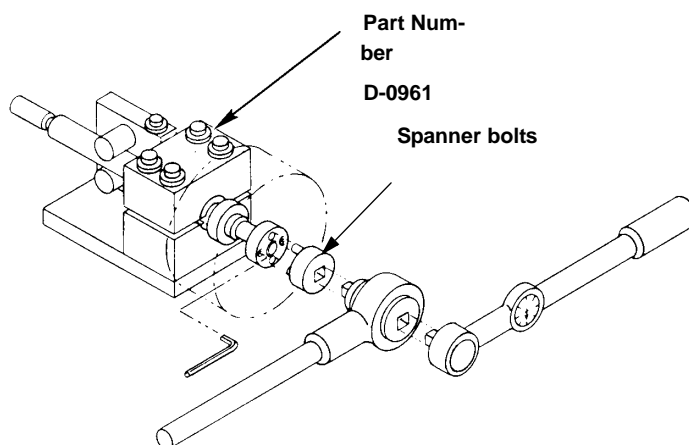

FIGURE 5-12 PISTON AND ROD CLAMPING FIXTURE
The Piston and Rod Clamping Fixture shown in Figure 5-12 on page 5-19 will be useful for the piston and rod disassembly and reassembly operations. This fixture may be purchased from Ariel.
1. Clamp the piston and rod assembly in the special Clamping Fixture (D-0961), using the bushing for a 1-1/2" rod size (see Figure 5-12). Tighten the four 12-point cap screws to prevent the rod from turning. The fixture will properly hold the piston rod to prevent damage to the parts and promote safety during disassembly and reassembly. The Clamping Fixture must be securely bolted down to prevent it from turning with the piston rod. It should be at a convenient height of approximately three feet or 0.9 meters. Remove the setscrews from the piston nut. Although the piston nut has been staked to lock the setscrews, they can be forced out, by turning with an Allen wrench, past the small lip that has been formed.